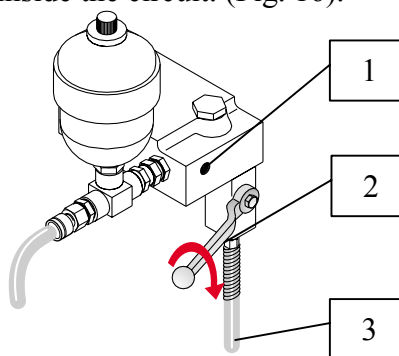

Fig.16
- 5) Open the discharge tap to remove all of the air inside the circuit. (Fig. 16).